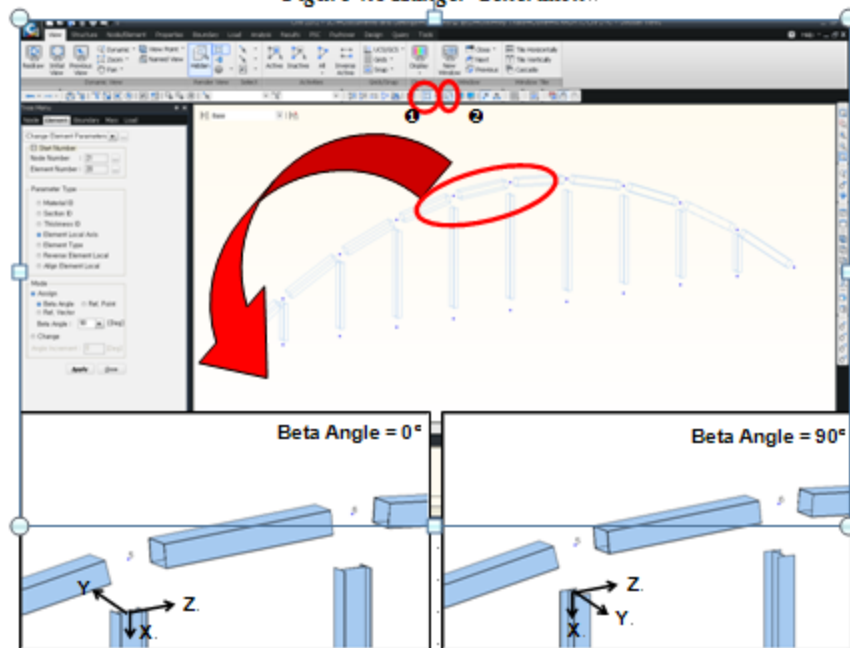

Figure 4.9 Modification of the Beta Angle for Hangers..
Click **Shrink** (Figure 4.9①) and  **Hidden** (Figure 4.9②) (Toggle on) to check the entered *Beta Angle*. Check the current data entries and click  **Shrink** and  **Hidden** to toggle off.